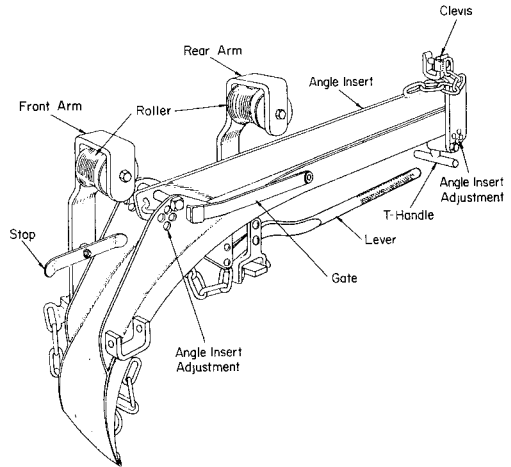

Fig. 1 — C Cable Guide
2.01 The C Cable Guide (Fig. 1) weighs 60 pounds and consists of a formed shoe for guiding the cable to its position at the suspension strand and an adjustable angle insert in the straight portion of the shoe which aids in removing bows from the cable. It accommodates sizes of cable between 1-3/4 and 3 inches in diameter.
**2.04** Both arms (Fig. 1) are arranged to be mounted on either side of the guide without the use of a wrench. When used in lashing cable directly from a moving reel, the guide is placed on the strand with the arms mounted on the side of the guide opposite the pole. The guide is moved ahead of the lasher by a towing line.